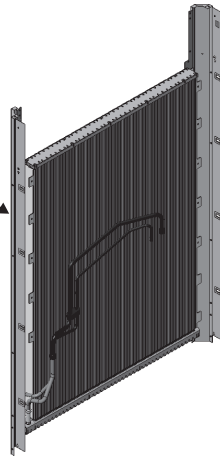
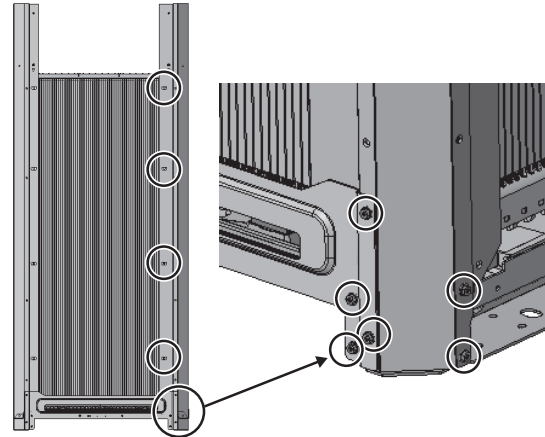

Fig. 57 Rear heat exchanger unit drawing
Fig. 56 Right
(4) Remove the screws that secure the rear and right pillars. (10 screws: Fig. 56 and Fig. 57)